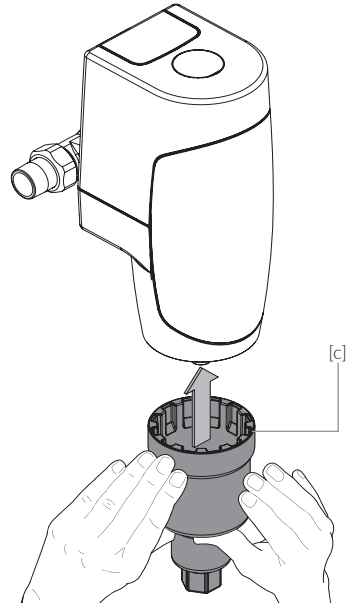

Fig. 8.6
- / Insert the maintenance nut [c] included in the scope of delivery into the filter as shown in Fig. 8.6